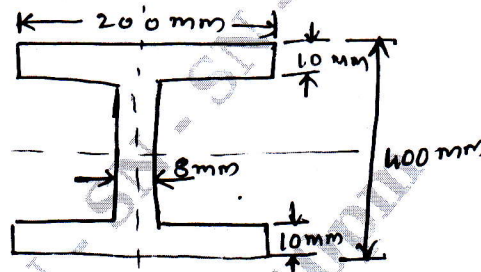

Fig.Q4(b)
b. The cross section of a beam is shown in Fig.Q4(b). If permissible stress is  $150 \text{ N/mm}^2$ , find its moment of resistance. Compare it with equivalent section of the same area of square section.